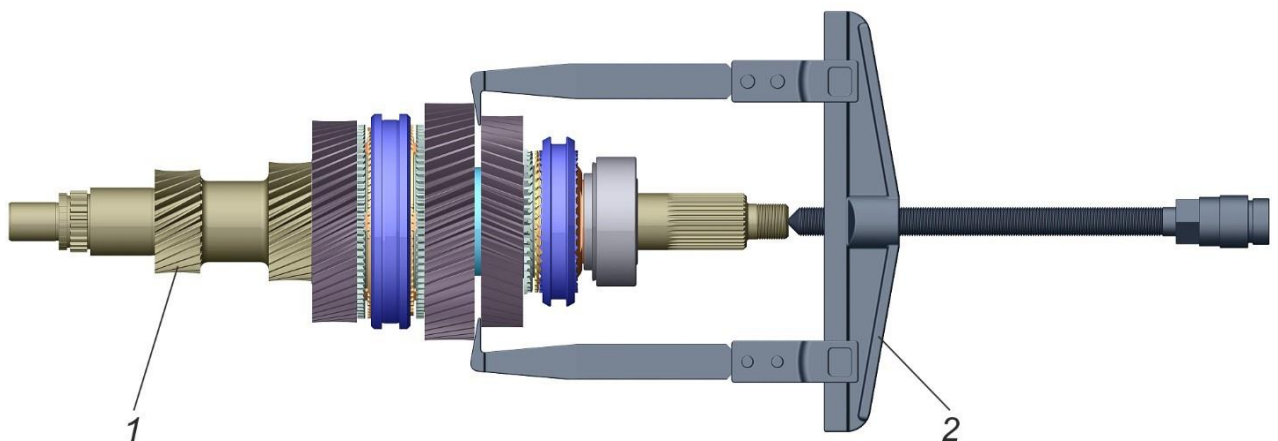

Fig. 3.14. Reverse gear removal: 1 – secondary shaft assembly; 2 – universal puller
- press out package of parts (Fig. 3.14) from the secondary shaft using universal puller (fix legs to the reverse gear rim): tapered bearing 23 inner race (see Fig. 3.18), thrust washer 22, reverse gear synchronizer 21 hub and sleeve assembled with T-blocks and synchronizer springs, reverse gear 19 with locking ring 20 and needle bearings 25;